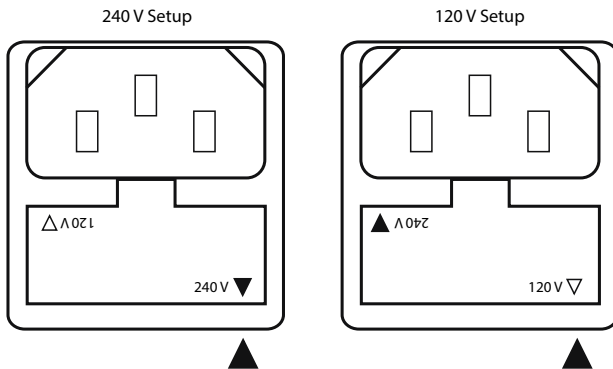
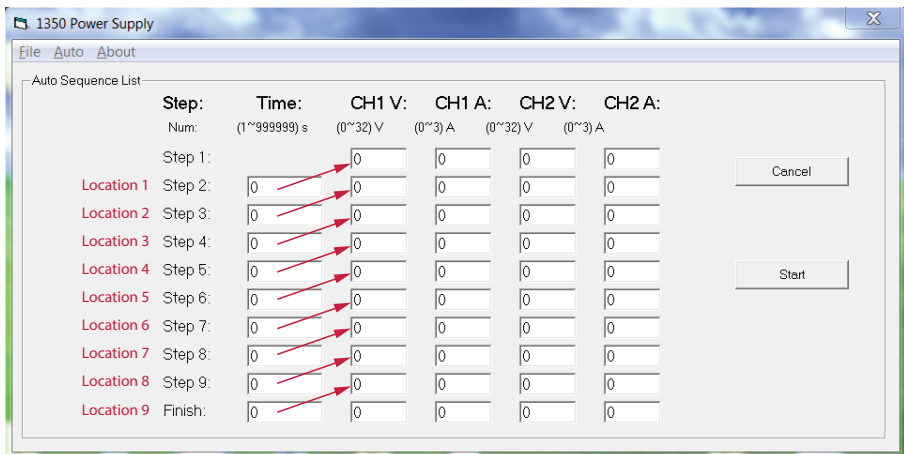

Figure 4. Fuse Selector
Figure 5. List Mode
The input power voltage indicator is a black arrow ▲ on the rear panel near the AC input connector. See Figure 3, number 30. The fuse holder (Figure 3, number 31) has both a smaller white arrow ▽ (120 V) and a smaller black arrow ▼ (240 V) on it. The fuse holder should be rotated so that the fuse holder arrow of the appropriate voltage is pointing to the larger black input power voltage indicator arrow. See Figure 4.
6. The output is set to "Off" as in Figure 4. Click the On/Off to start output as in Figure 5. Clicking it again will return to "Off" position.